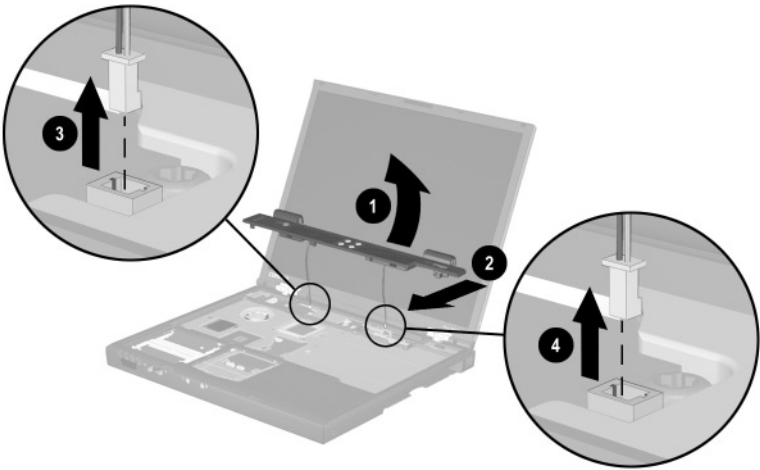

Figure 5-17. Removing the Switch Cover
7. Lift the switch cover up ❶, slide it forward ❷, and rest it on the top cover (Figure 5-17).
8. Disconnect the left ❸ and right speaker cables ❹ from the system board.